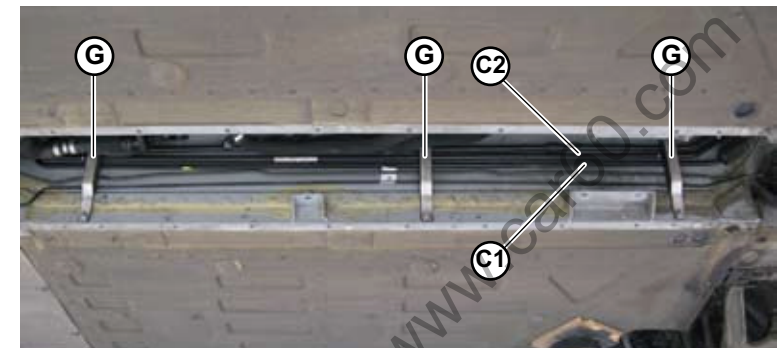

Fig.19
5. Release the 3 clamps (**G-Fig.19**) securing the **C1** central delivery pipes, **C2** central return pipes and the brake vacuum pump pipe to the chassis.